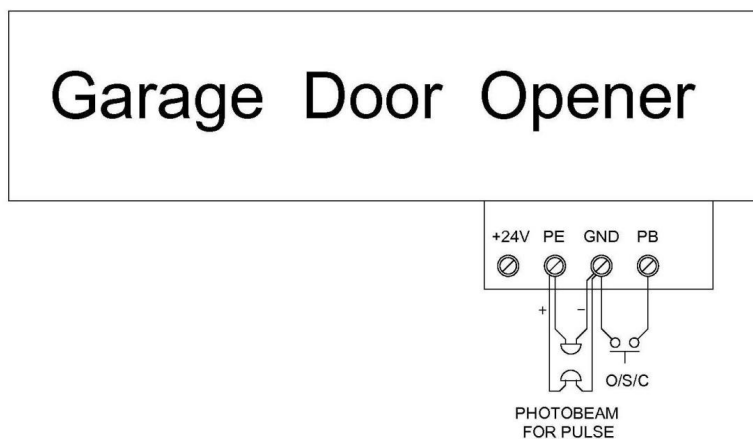
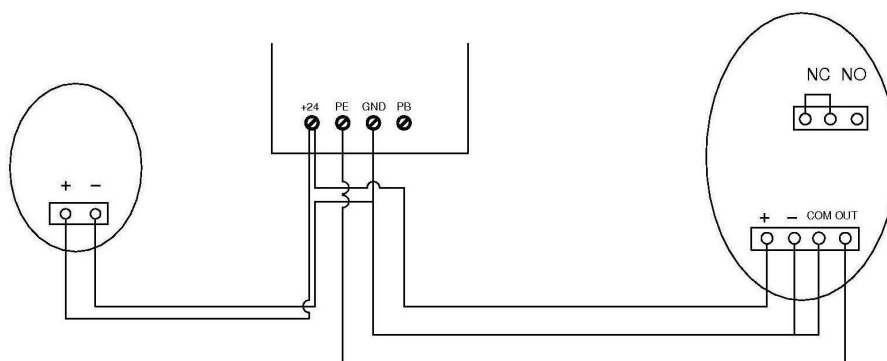

Fig. 11
Fig. 12
Connecting a touch off switch to this terminal (Fig.11), you can use the switch when maintaining or the transmitter is left in garage.
3. Photo beam/switch control connection (Fig.11, Fig.12)